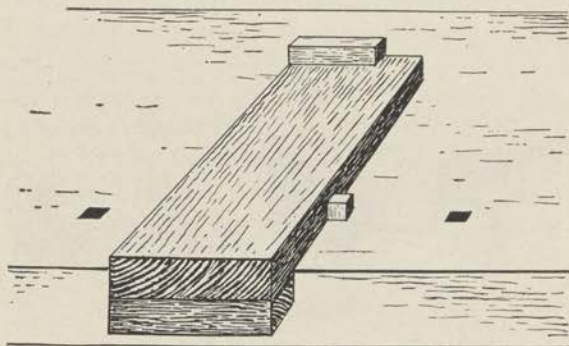

FIGURE 9.—Bench hook or chisel board.
c. Bench hook.—As in most processes, one can get good results in woodworking only when the equipment is clean and well cared for. Bench tops should not be marked or scratched unnecessarily. When working with a chisel or small saw, use a chisel board or bench hook (fig. 9) to protect the top from accidental cuts.